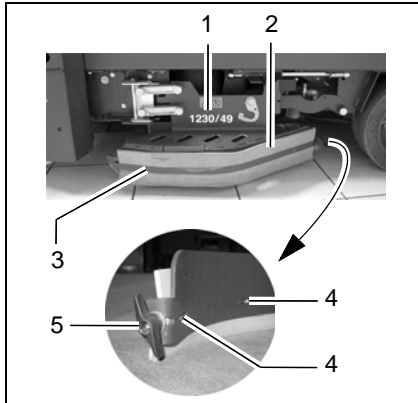

Fig. 33
The deflector (Fig. 33/1) must be fixed in its service position (refer to Section 2.3.1, Point 3).
1. Loosen the wing nut (Fig. 33/5) at the end of the deflector.
2. Slide the clamping rail (Fig. 33/3) in the vehicle's driving direction (forwards) until the clamping rail hooks (Fig. 33/4) are freed and the clamping rail (Fig. 33/3) can be removed away from the vehicle.
3. Remove the old rubber deflector strips (Fig. 33/2).
4. Position the new rubber deflector strips (Fig. 33/2) in place.
5. Mount the clamping rail (Fig. 33/3) from the outside and slide back by hand so that the clamping rail hooks (Fig. 33/4) engage.
- Tighten the wing nut (Fig. 33/5) so that it engage in the thread of the clamping rail (Fig. 33/3) and tightens the clamping rail firmly (Fig. 33/3).